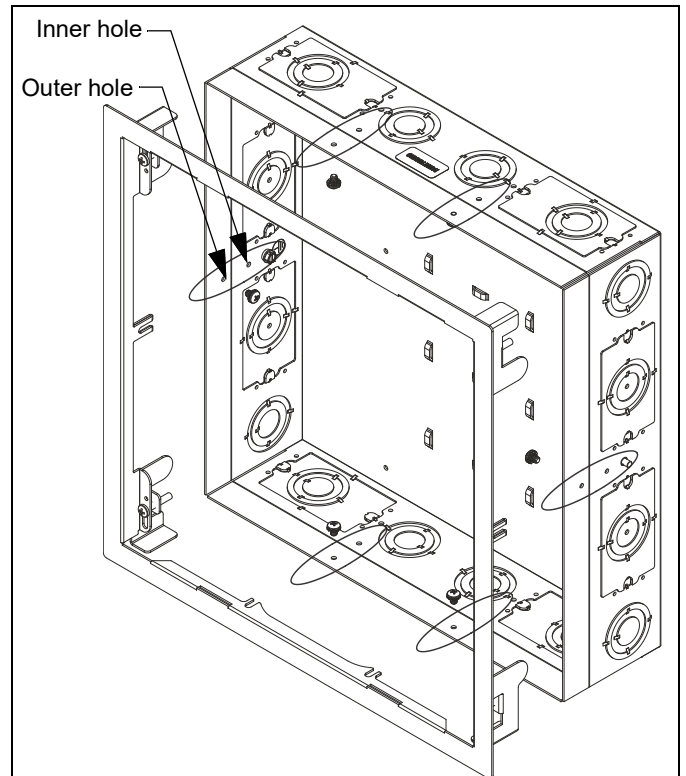

Figure 11
1. Loosely install eight 10-24 x 1/4" Phillips head screws with external teeth (M) into holes in PAC525/526 sides. (See Figure 11)
**NOTE:** If the outer edge of the PAC525/526 needs to be removed, use the inner hole for flange attachment. (See Figure 11)